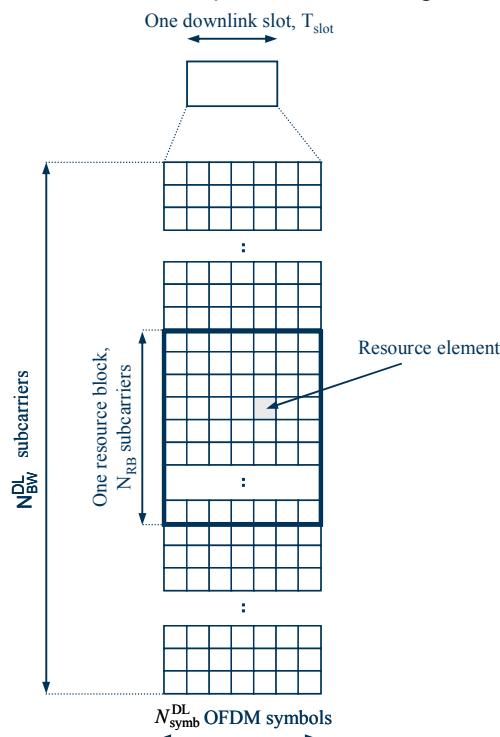

Fig. 5 Downlink Resource Grid
Fig. 5 shows the structure of the downlink resource grid for the duration of one downlink slot. The available downlink bandwidth consists of $N_{\text{BW}}^{\text{DL}}$ subcarriers with a spacing of $\Delta f = 15 \text{ kHz}$. In the case of multi-cell MBMS transmission (see chapter 7), a subcarrier spacing of $\Delta f = 7.5 \text{ kHz}$ is also possible. $N_{\text{BW}}^{\text{DL}}$ can vary in order to allow for scalable bandwidth operation up to 20 MHz. Initially, the bandwidths for LTE were explicitly defined within layer 1 specifications. Later on a bandwidth agnostic layer 1 was introduced, with $N_{\text{BW}}^{\text{DL}}$ for the different bandwidths to be specified by 3GPP RAN4 to meet performance requirements, e.g. for out-of-band emission requirements and regulatory emission limits.
Data is allocated to the UEs in terms of resource blocks. A physical resource block consists of 12 (24) consecutive subcarriers in the frequency domain for the $\Delta f=15 \text{ kHz}$ ($\Delta f=7.5 \text{ kHz}$) case. In the time domain, a physical resource block consists of $N_{\text{symb}}^{\text{DL}}$ consecutive OFDM symbols, see Fig. 5. $N_{\text{symb}}^{\text{DL}}$ is equal to the number of OFDM symbols in a slot. The resource block size is the same for all bandwidths, therefore the number of available physical resource blocks depends on the bandwidth. Depending on the required data rate, each UE can be assigned one or more resource blocks in each transmission time interval of 1 ms. The scheduling decision is done in the base station (eNodeB). The user data is carried on the physical downlink shared channel (PDSCH). Downlink control signaling on the physical downlink control channel (PDCCH) is used to convey the scheduling decisions to individual UEs. The PDCCH is located in the first OFDM symbols of a slot.